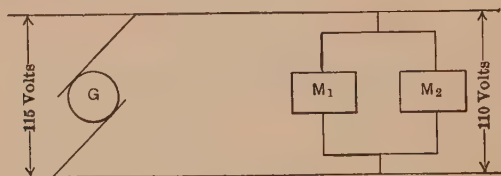

FIG. 58.
**Prob. 2.** In Fig. 58,  $M_1$  takes 10 amp.,  $M_2$  takes 15 amp. How much resistance can each line wire have in order that the voltage of the generator may be 115 volts, and 110 volts may be supplied at the motors?